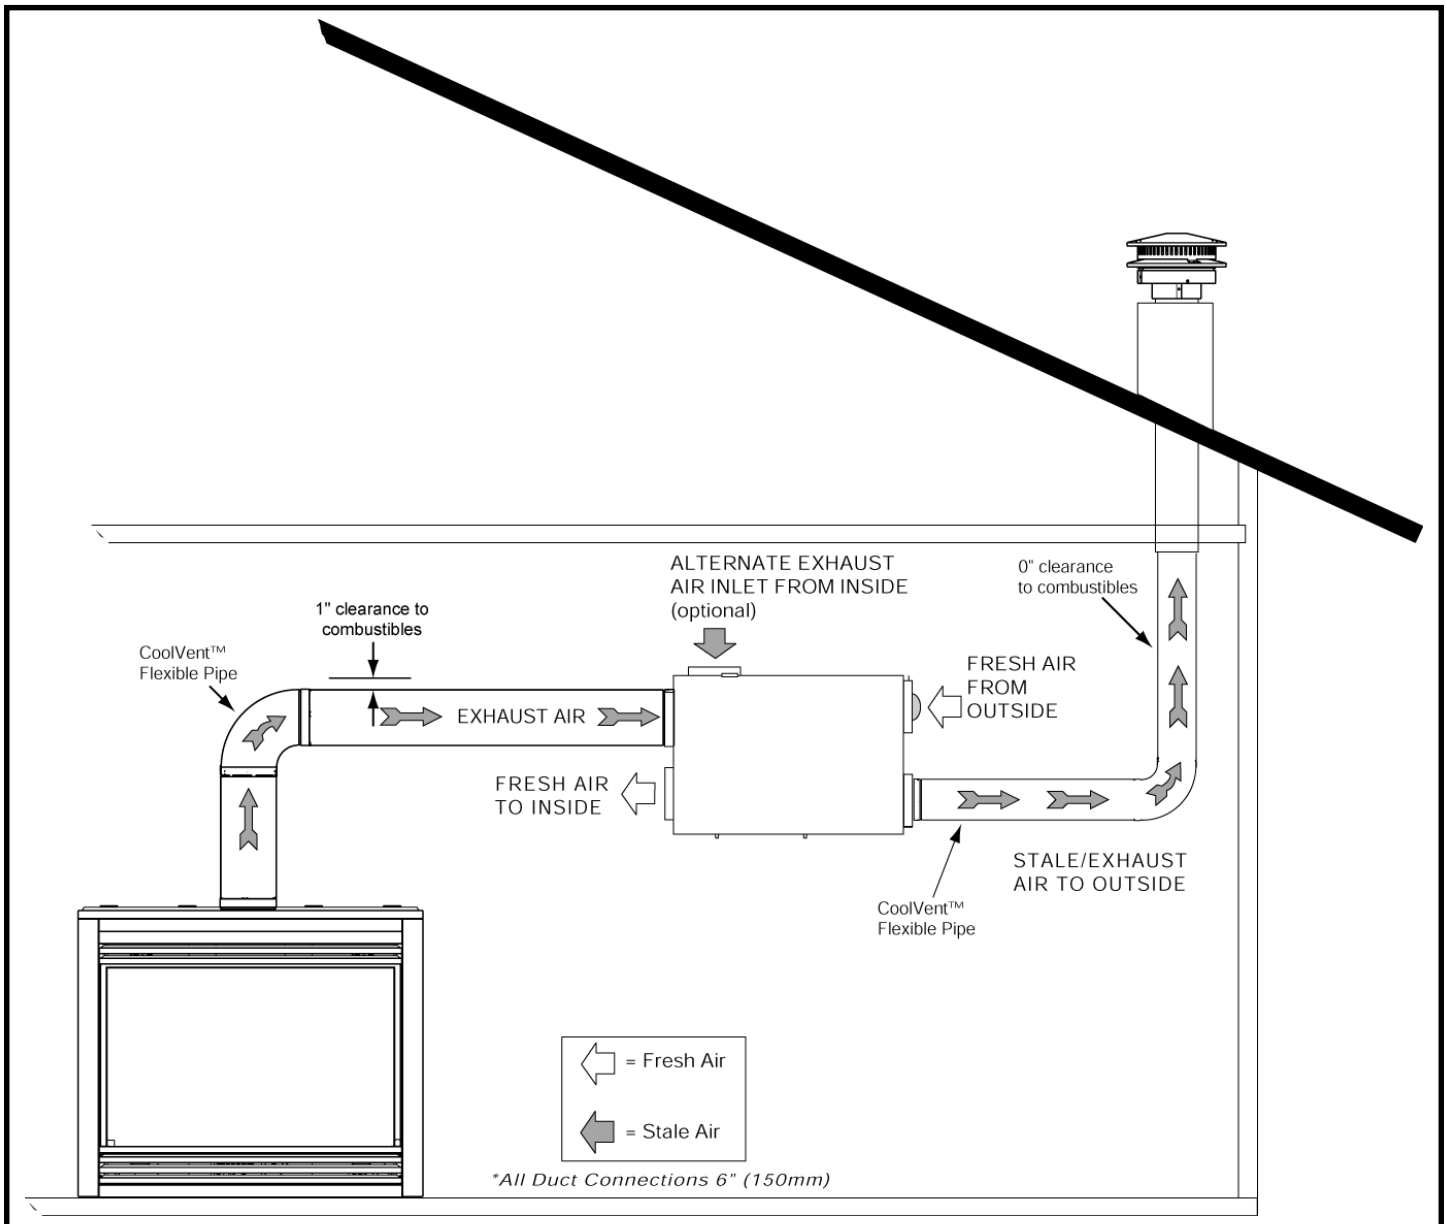

Figure 11
3. Vertical Termination (see Figure 11)